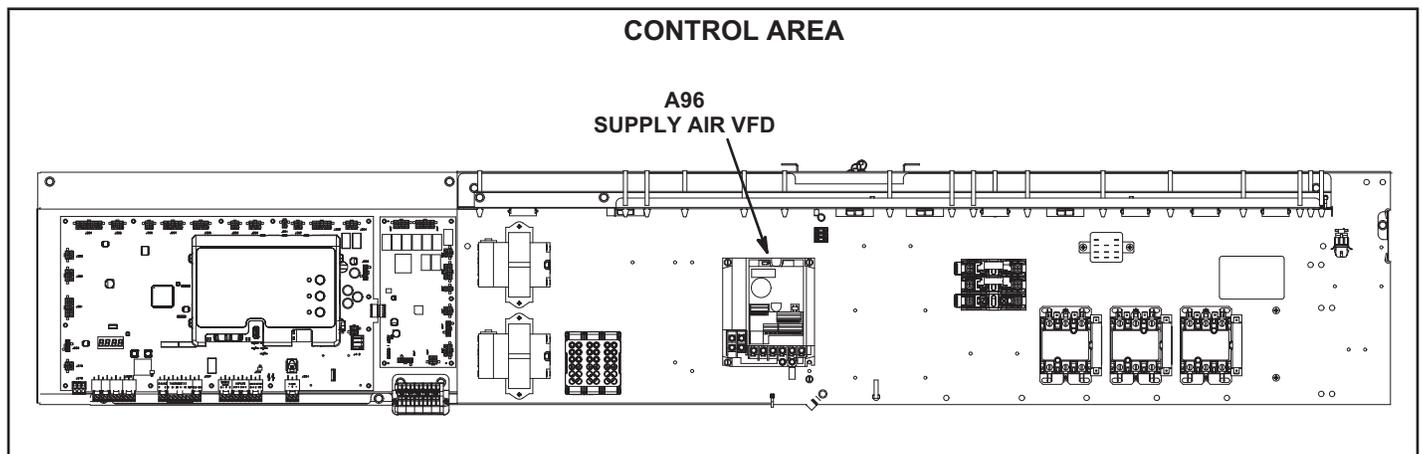

FIGURE 33
Units contain a supply air blower equipped with a variable frequency drive A96 (VFD) which varies supply air CFM. The supply air VFD (A96) is located in the control area. See FIGURE 33.
- 4 - Locate the A55 Unit Controller. Refer to FIGURE 33.